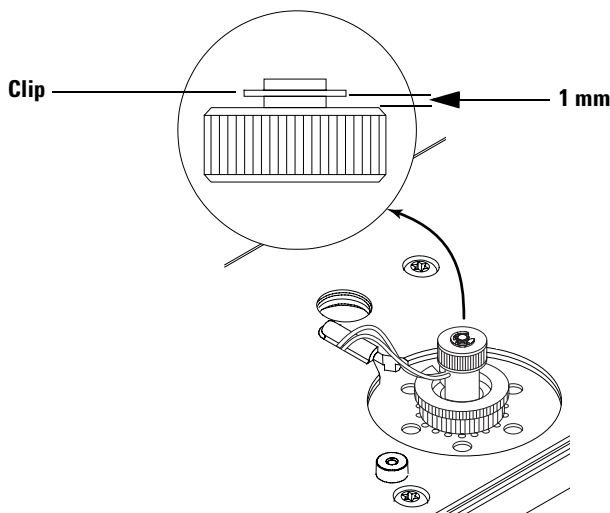

Figure 54 Replacing the septum nut
- 7 Replace the septum nut and tighten it finger-tight. Tightening the cap pushes the clip up approximately 1 mm from the surface of the nut. Do not over-tighten the nut. See Figure 54.